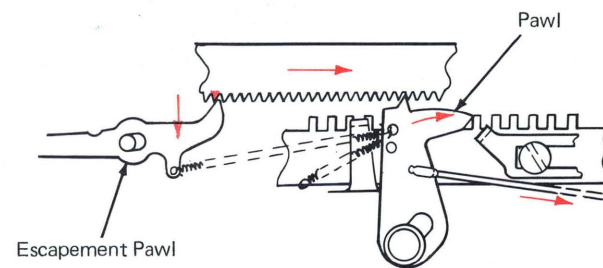

Figure 5 – BS Pawl Pulls Carriage To Right (Bottom View)
3. Backspace pawl pulls carriage to the right – escapement pawl drops into the next tooth (Figure 5).